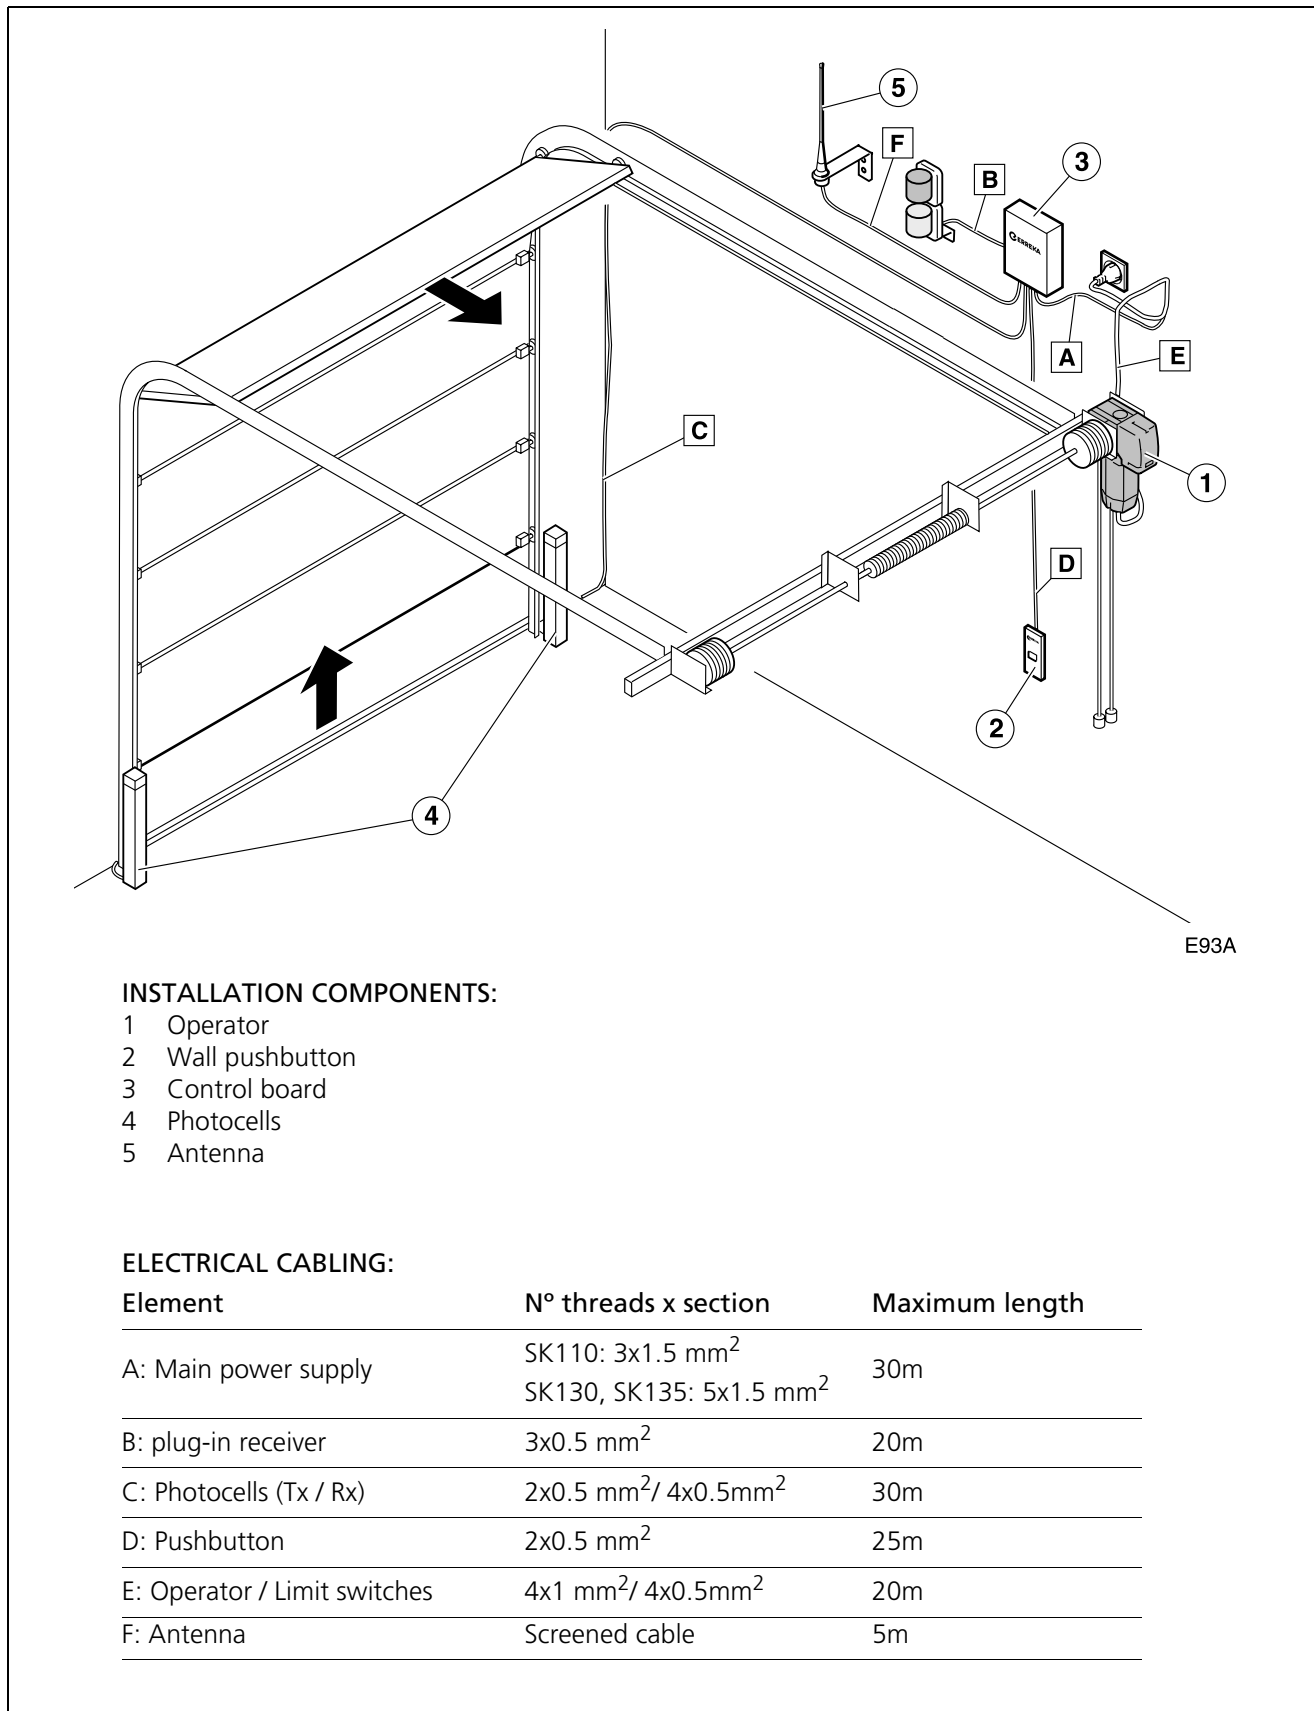

Fig. 1 Elements of the complete installation
📌 For further details, see "Fig. 1 Elements of the complete installation" on page 15.
- ☞ The electrical cable section is indicated in: "Fig. 1 Elements of the complete installation" on page 15.